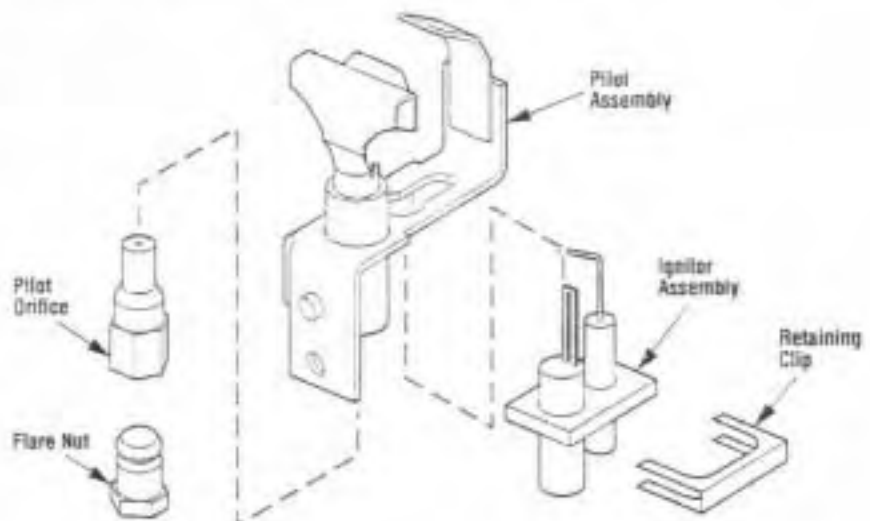

Figure 53
**Step 5. Electronic Models** - Remove the gas type selector plug (Figure 52) and turn it around to show the appropriate gas type and reinstall the selector plug. Gas type in use should be visible on the selector plug when it is installed. See Figure 53 and replace the pilot orifice as follows: Remove the ignitor assembly retainer clip, and carefully remove the ignitor assembly